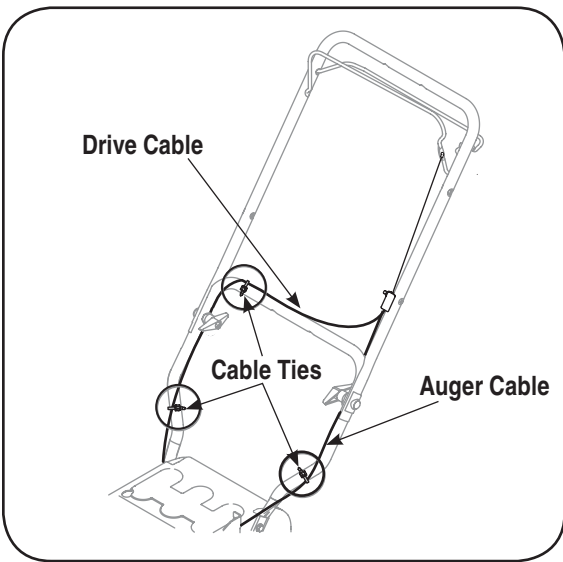

Figure 5
1. Make sure that the drive cable is routed parallel to the left upper handle, then across the top of the lower handle and finally parallel to the right lower handle. See Figure 5.
2. Three cable ties have been used to loosely tie the two control cables to the lower handle. Two of these cable ties are on each arm, and third on the top cross bar of the lower handle. Tighten these cable ties to secure the cable to the lower handle. See Figure 5.